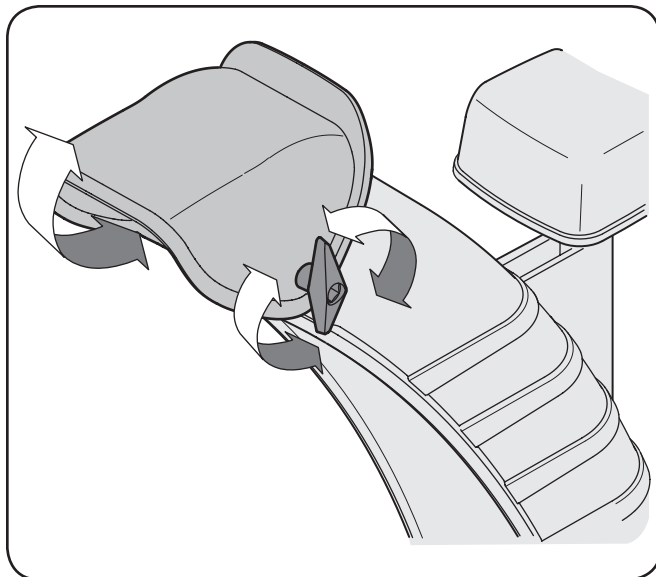

Fig. 3-12
3. Pivot the chute upward or downward before retightening the wing knob. See Fig. 3-12.